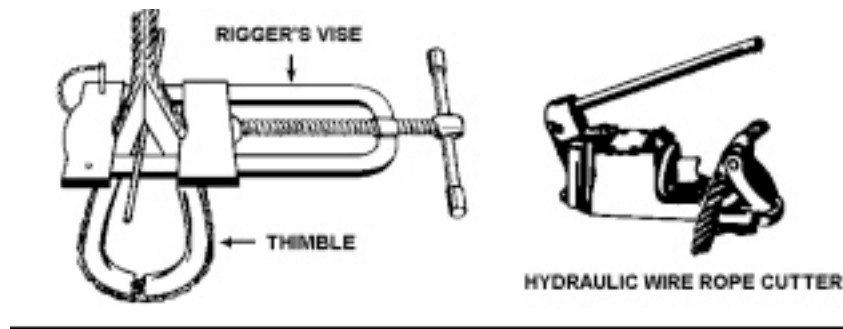
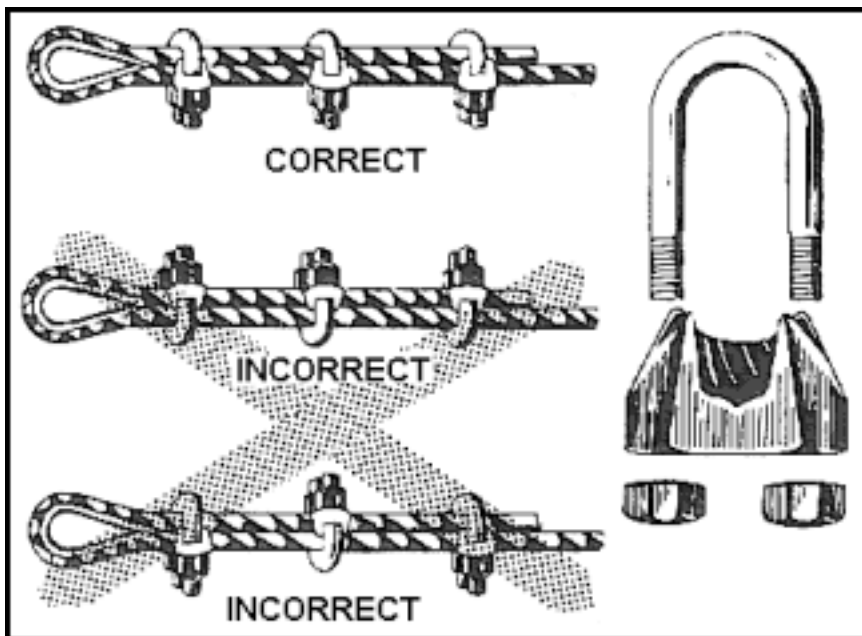

Figure 1
Figure 2
2. Cut Cable A small hydraulic wire rope cutter is the easiest way to cut the ½” cable. You will also want a rigger’s vice or similar tool to clamp the wire rope to the thimble while you attach wire rope clips. (Figure 1).
3. Splicing Cable Slide wire rope clips onto the cable. Using a Rigger’s vice, (fig 1) or other clamping device, clamp cable around thimble.(See Figure 2 for correct assembly).
4. PolyPipe Insert a length of PolyPipe through the total number of units that will be included in any one (1) section. Due to the pipe being shipped in coils it likely will only go through four (4) units at a time and will have to be “fed” through the rest.
5. Cable Installation Feed “raw” end of cable through metal washer, then Delrin spacer, then through 1” PolyPipe. On the opposite end attach Delrin spacer, then metal washer and attach thimble and wire rope clips as shown in Figure 2. (Refer also to “Anchor System Detail”).